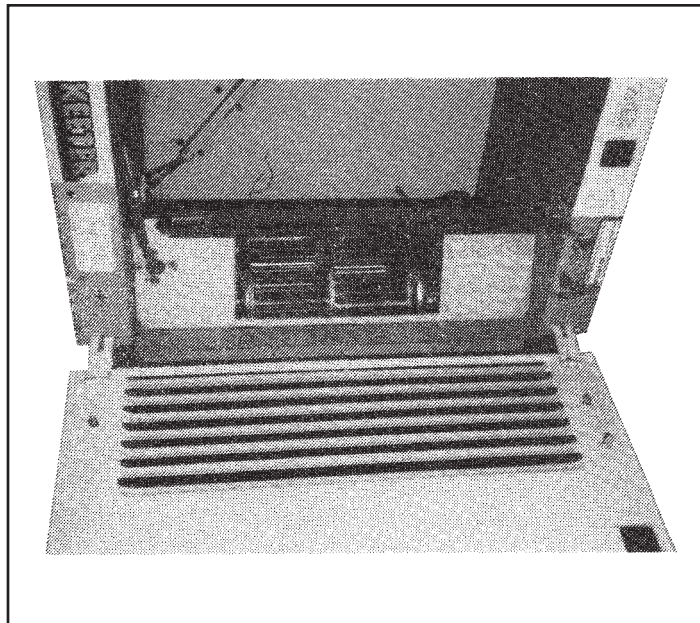

FIGURE 12
- Install faceplate grille by sliding the two hinge legs into the slotted openings at the blower end of cabinet (see Figure 12).